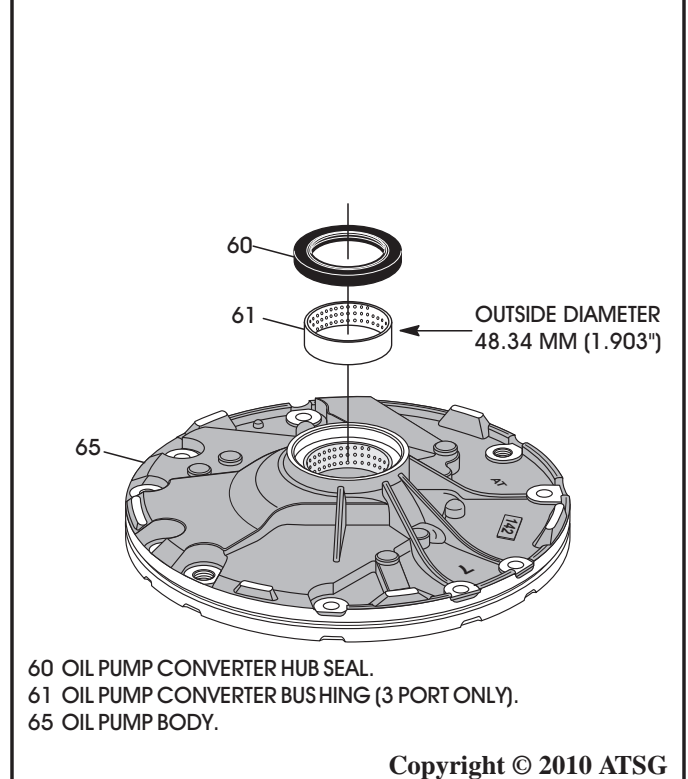

Figure 157
7. Install new bushing in pump body as needed, as shown in Figure 157 (3-Port models only), using the proper driver.